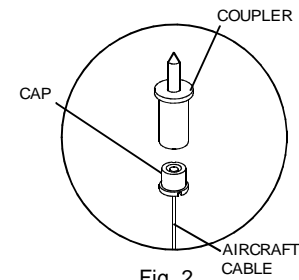

Fig. 2
2. Mount the couplers to the ceiling based on the measurement from step 1 using appropriate fasteners (not included) according to the structure of the ceiling (Fig. 2).